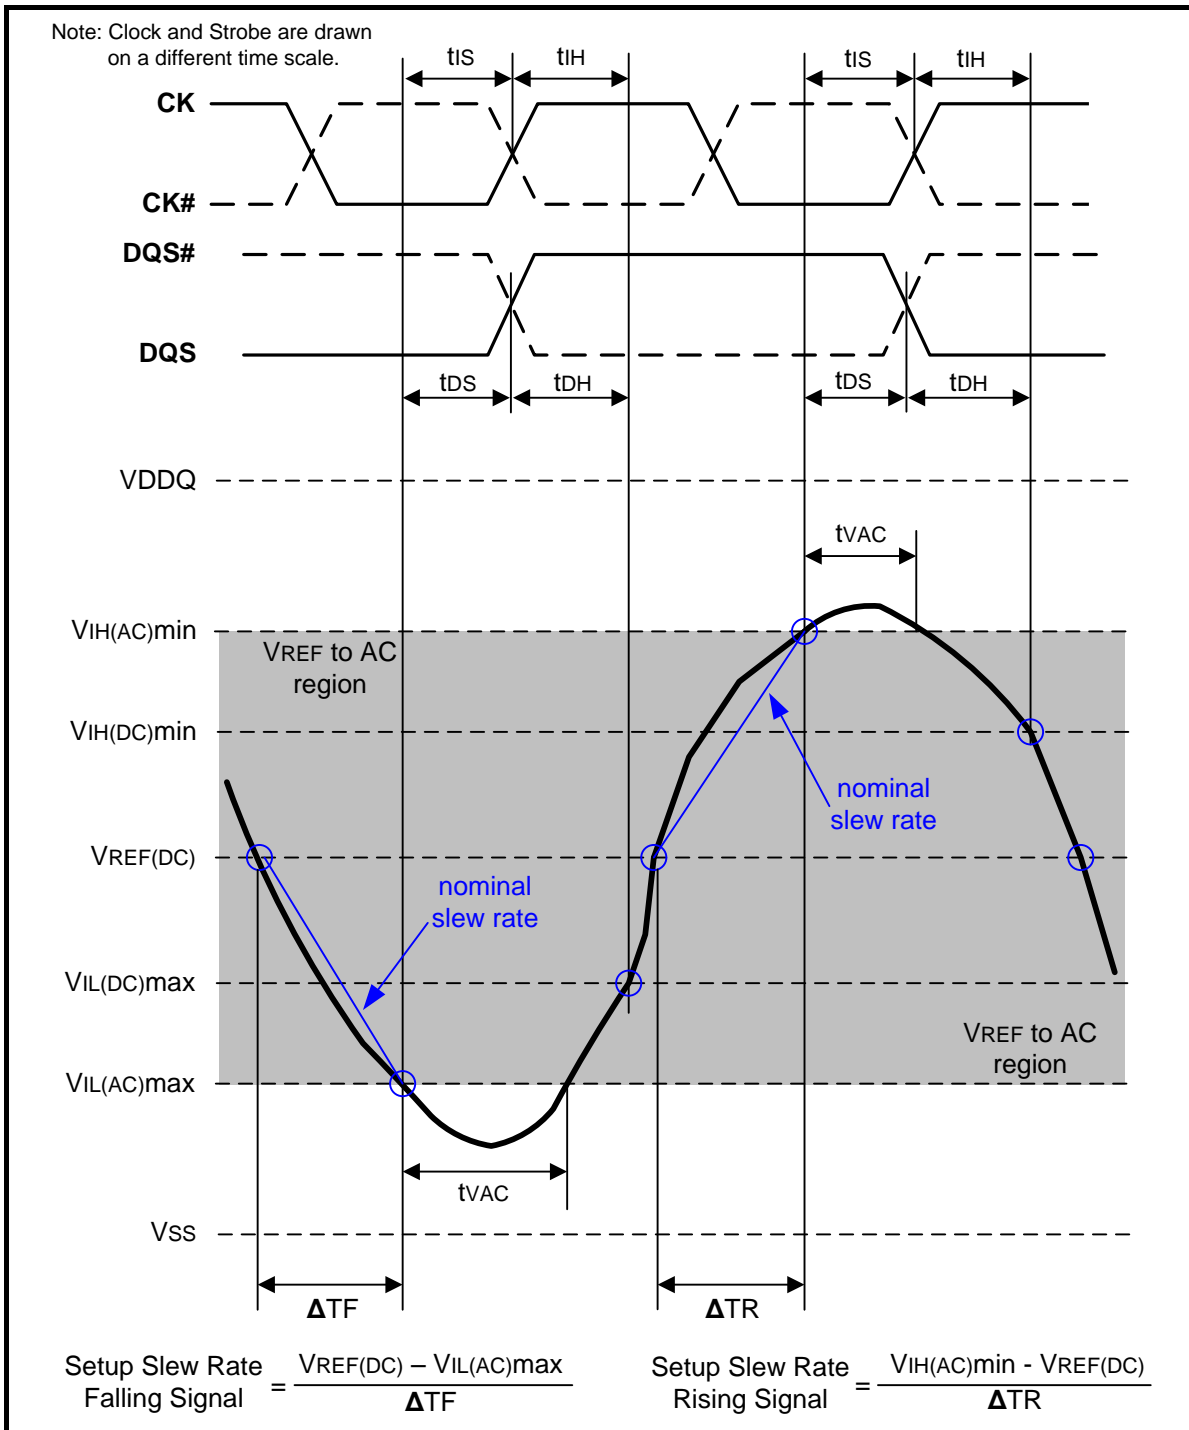
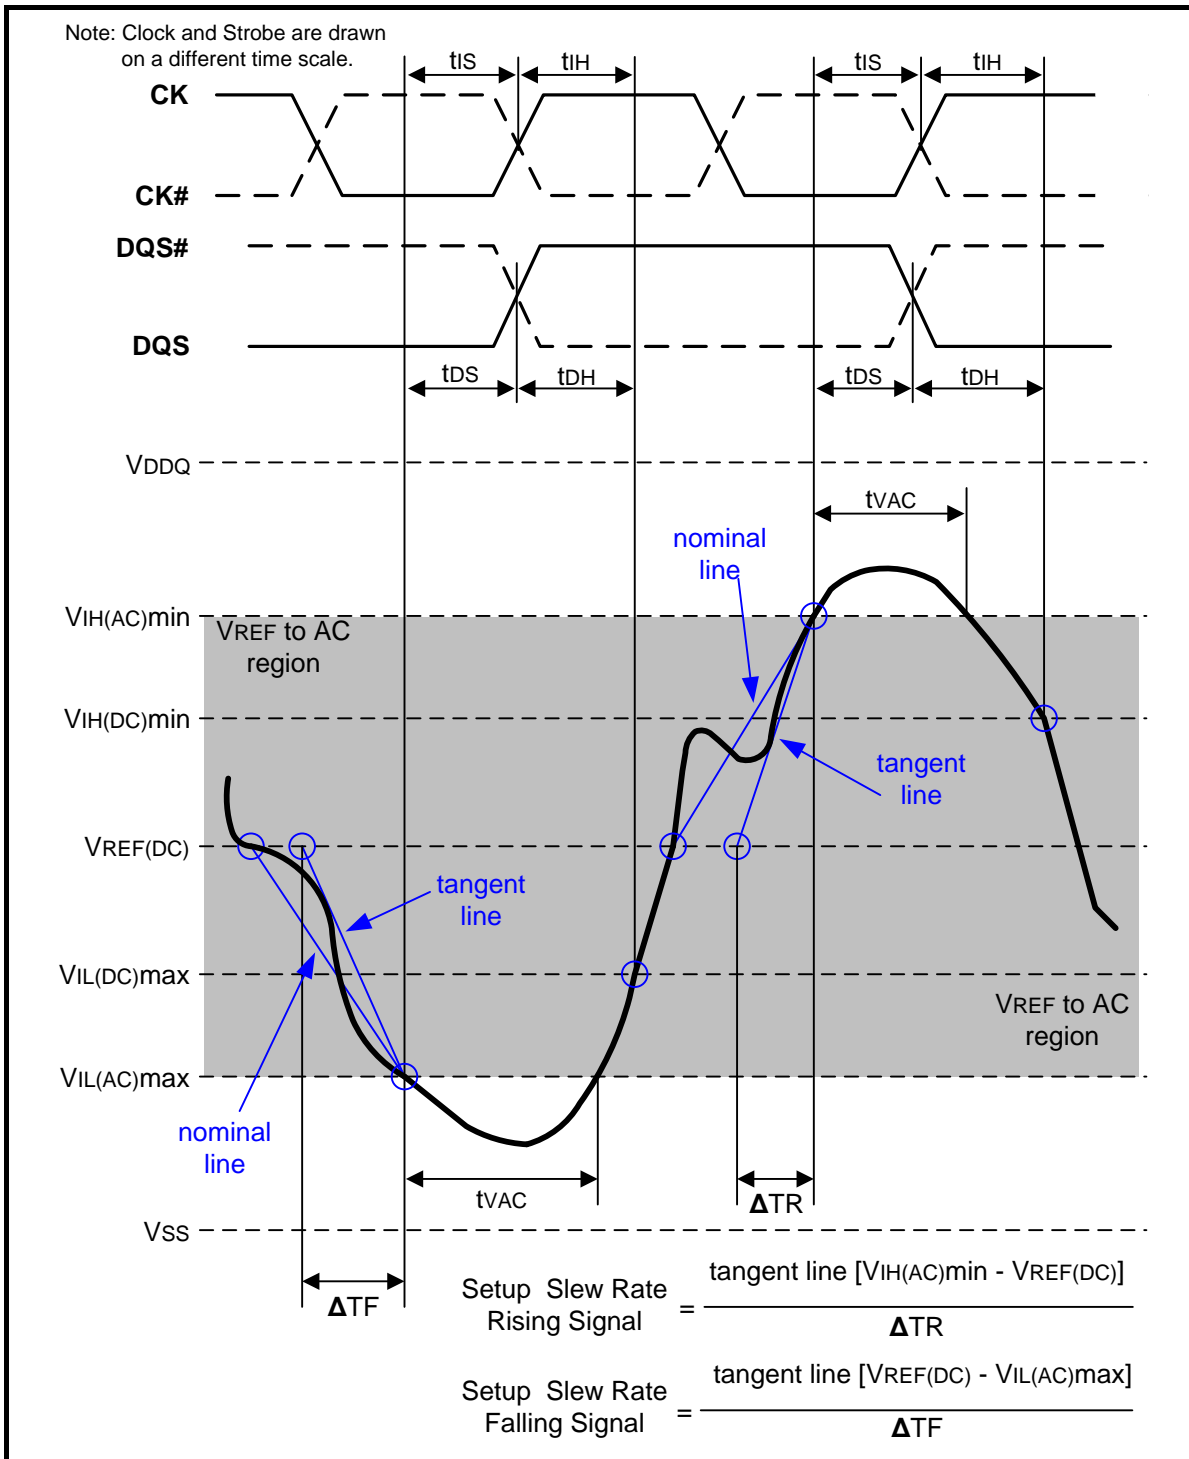

Figure 107 – Illustration of nominal slew rate and tvac for setup time tds (for DQ with respect to strobe) and tis (for ADD/CMD with respect to clock)
Figure 109 – Illustration of tangent line for setup time tDS (for DQ with respect to strobe) and tIS (for ADD/CMD with respect to clock)
Setup ( $t_{IS}$ ) nominal slew rate for a rising signal is defined as the slew rate between the last crossing of  $V_{REF(DC)}$  and the first crossing of  $V_{IH(AC)min}$ . Setup ( $t_{IS}$ ) nominal slew rate for a falling signal is defined as the slew rate between the last crossing of  $V_{REF(DC)}$  and the first crossing of  $V_{IL(AC)max}$ . If the actual signal is always earlier than the nominal slew rate line between shaded 'VREF(DC) to AC region', use nominal slew rate for derating value (see Figure 107). If the actual signal is later than the nominal slew rate line anywhere between shaded 'VREF(DC) to AC region', the slew rate of a tangent line to the actual signal from the AC level to DC level is used for derating value (see Figure 109).
Setup (tDS) nominal slew rate for a rising signal is defined as the slew rate between the last crossing of VREF(DC) and the first crossing of VIH(AC)min. Setup (tDS) nominal slew rate for a falling signal is defined as the slew rate between the last crossing of VREF(DC) and the first crossing of VIL(AC)max (see Figure 107). If the actual signal is always earlier than the nominal slew rate line between shaded 'VREF(DC) to AC region', use nominal slew rate for derating value. If the actual signal is later than the nominal slew rate line anywhere between shaded 'VREF(DC) to AC region', the slew rate of a tangent line to the actual signal from the AC level to DC level is used for derating value (see Figure 109).